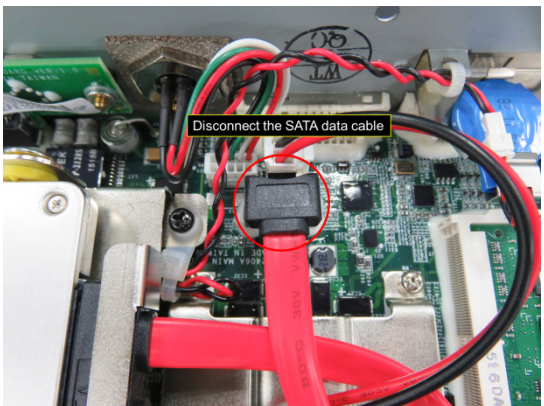

Figure 14
- 4.2.2.1 Disconnect the SATA data cable from the main board as shown in Figure 14.